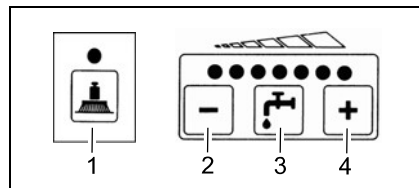

Fig. 24
- Increase brush pressure (Fig. 24/1)
- Fresh water feed on/off (Fig. 24/3)
- Reduce fresh water quantity (Fig. 24/2)
- Increase fresh water quantity (Fig. 24/4)
- Fresh water supply on/off (Fig. 24/3)
- Reduce water quantity (Fig. 24/2)
- Increase water quantity (Fig. 24/4)